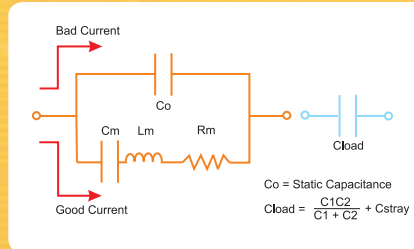

Figure 1: Equivalent Circuit of a Crystal
**Crystal Equivalent Circuit.** Fig 1 is the equivalent circuit for a crystal plus external load.